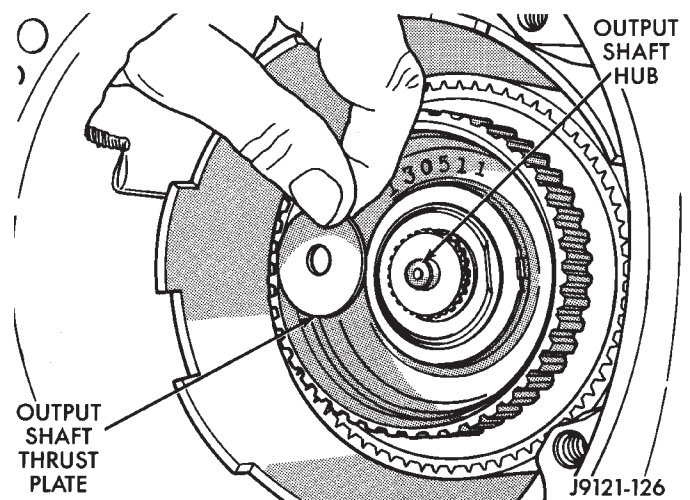
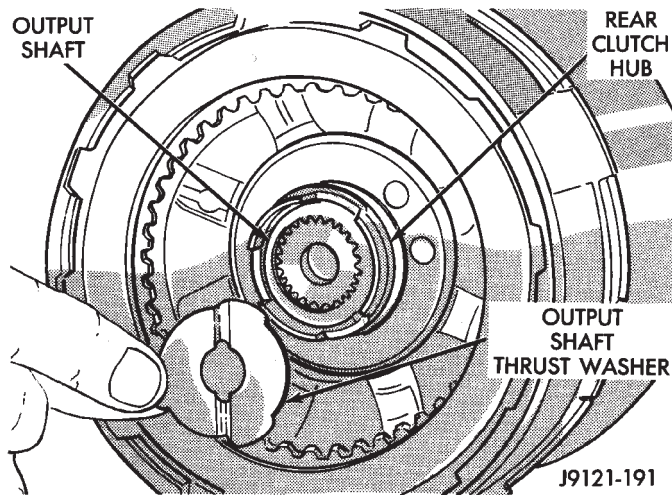

Fig. 102 Output Shaft Thrust Plate
Fig. 104 Output Shaft Thrust Washer
(29) Install output shaft thrust plate on shaft hub in planetary geartrain driving shell (Fig. 102). Use petroleum jelly to hold thrust plate in place.
(30) Check rear clutch thrust washer. Use additional petroleum jelly to hold washer in place if necessary.
(31) Coat output shaft thrust washer with petroleum jelly. Install washer in rear clutch hub (Fig. 104). Use enough petroleum jelly to hold washer in place. **Be sure grooved side of washer faces rearward (toward output shaft) as shown. Also note that washer only fits one way in clutch hub.**